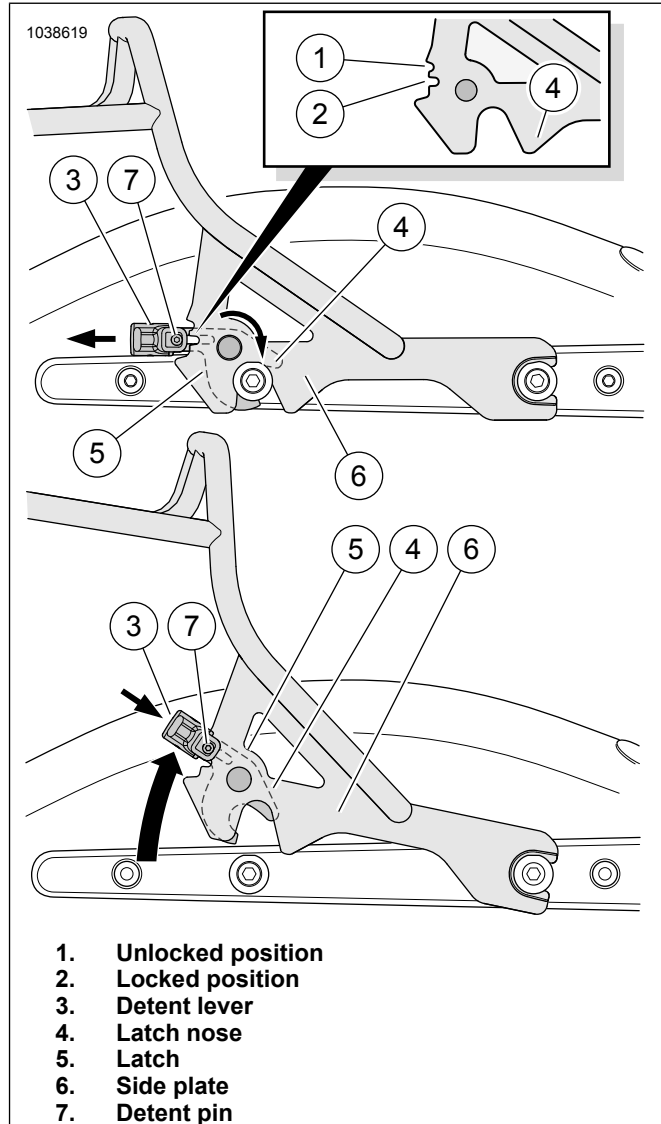

Figure 2. Detachable Luggage Rack Removal
1. See Figure 2. Pull both detent levers (3) rearward from the locked position (2), against the compression spring (8).